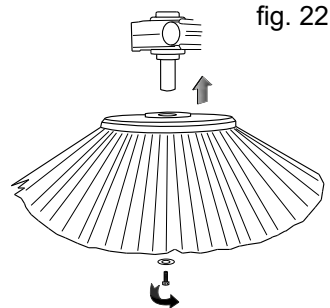

fig. 22
- tighten the brush locking screw again (fig. 22).